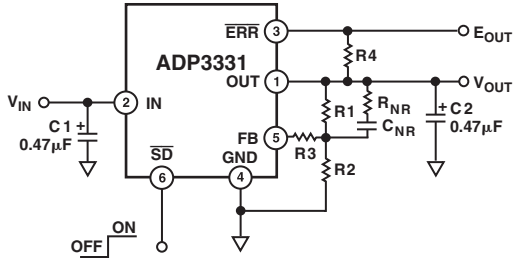

Figure 3. Noise Reduction Circuit
**Noise Reduction Capacitor:** A noise reduction capacitor can be used to reduce the output noise by 6 dB to 10 dB. This capacitor limits the noise gain when connected between the feedback pin (FB) and the output pin (OUT), as shown in Figure 3. Low leakage capacitors in the 10 pF to 500 pF range provide the best performance. Since FB is internally connected to a high impedance node, any connection to this node should be carefully done to avoid noise pickup from external sources. The pad connected to this pin should be as small as possible; long PC board traces are not recommended. When adding a noise reduction capacitor, use the following guidelines:
The ADP3331 has an adjustable output voltage that can be set by an external resistor divider. The output voltage will be divided by  $R_1$  and  $R_2$ , and then fed back to the FB pin. Refer to Figure 3.